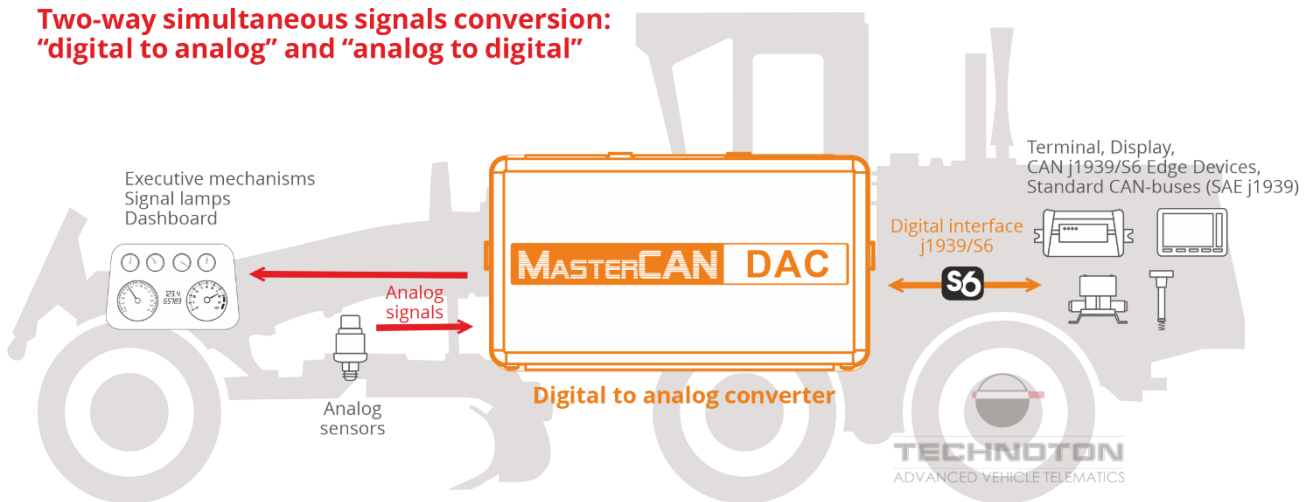

Figure 2 — Example of MasterCAN DAC application on the mobile asset for conversion of data from CAN-buses, CAN j1939/S6 Telematics interface and analog signals
- Conversion of signals from analog sensors, limit switches, signal lamps or relays sent to the digital CAN input (SAE j1939) of the Telematics terminal, dashboard, control panel, display (see figure 2).
1) In the mode of **digital to analog CAN gateway** (when MasterCAN DAC is connected to the onboard CAN-bus (SAE j1939) or to CAN j1939/S6 Telematics interface), the converter, in accordance with its settings, receives digital data (PGN), and automatically singles out specified SPN containing current data on fuel consumption and the asset performance characteristics. The converter converts SPN into analog signals, generates the corresponding physical signal in the selected output (see figure 2).